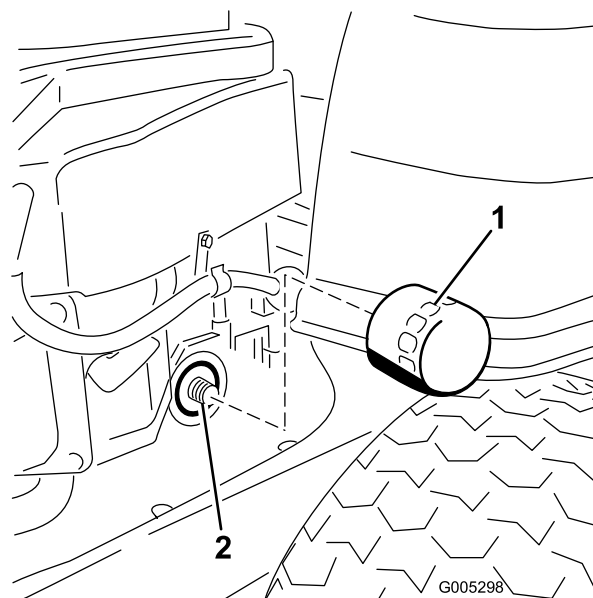

Figure 34
10. Locate the oil filter on the right side of the engine. Remove the old filter and wipe off the filter adapter with a clean cloth (Figure 34).
Turn the oil filter clockwise until the rubber gasket contacts the pad, then tighten the filter an additional 3/4 to 1 turn (Figure 34). Wipe up any excess oil on the frame.